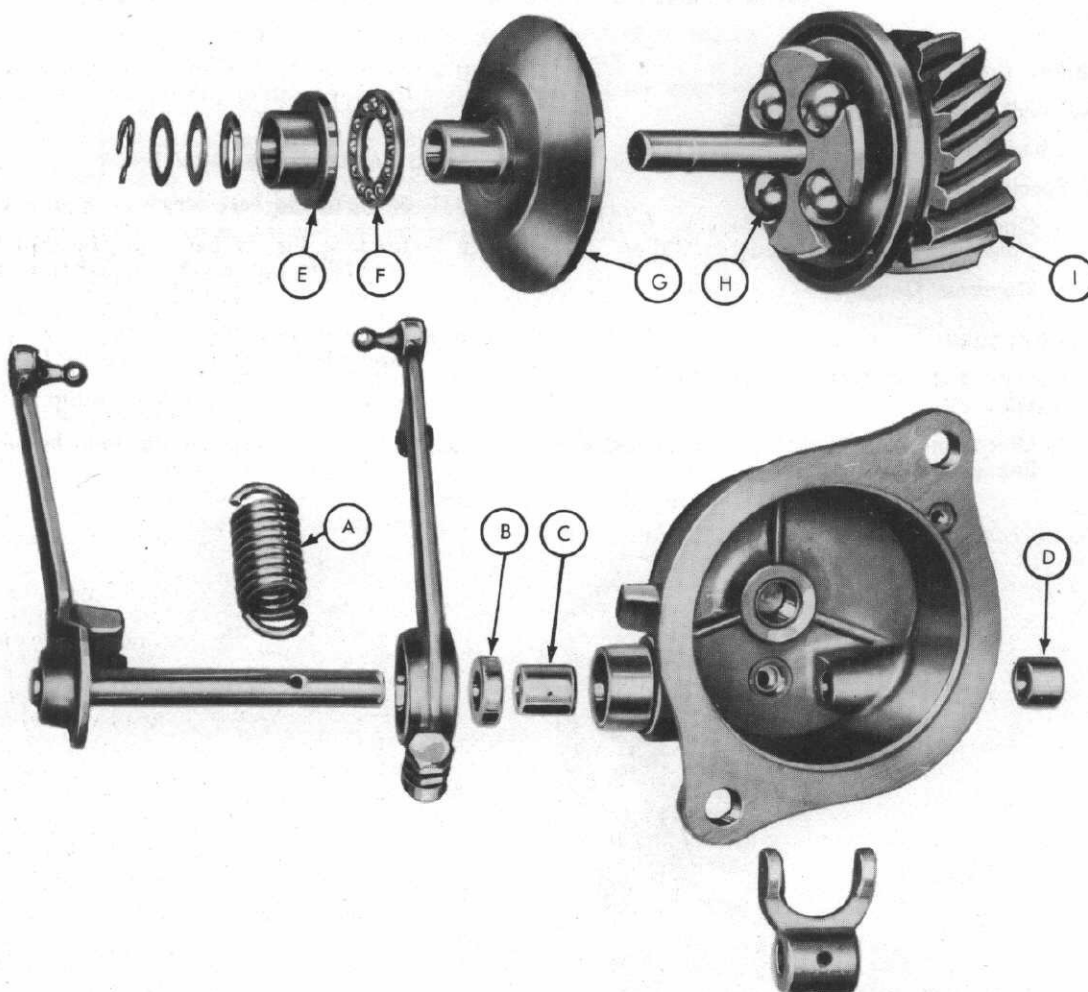

Fig. 2
- d. Remove the lever spring (A-Figure 2).
- e. Drive the lever shaft plug (D-Figure 2) from the governor body.
- f. Remove the needle bearing (C-Figure 2), and the dust seal (B-Figure 2) from the governor body.
Step 1—Examine the fly balls (H-Figure 2) for flat spots, pits or excessive wear.
Step 2—Examine the inner surface of the cone shaped upper bearing race (G-Figure 2). It should be smooth and even. If it is grooved or pitted, renew the cone.
Step 3—Check the condition of the fork base (E-Figure 2), the thrust bearing (F-Figure 2), the drive shaft bearing and the drive gear (I-Figure 2). Renew any worn or damaged parts.